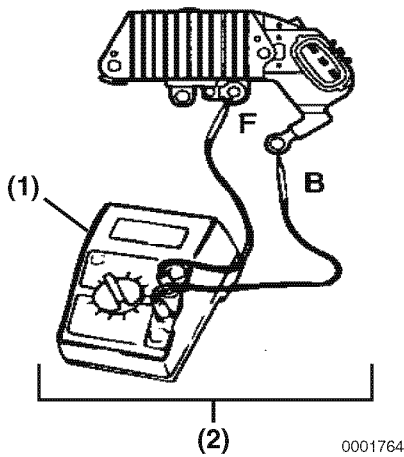

Figure 11-18
Check for continuity between terminals B and F using a multimeter (**Figure 11-18, (1)**).